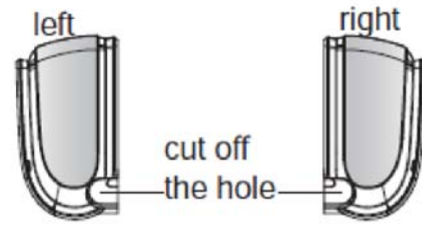

Fig. 16 - Remove Knockouts
1. Use a small saw blade to carefully remove the corresponding plastic covering on side panel and drill the appropriate size hole where the pipe is going through the wall. See Fig. 16.